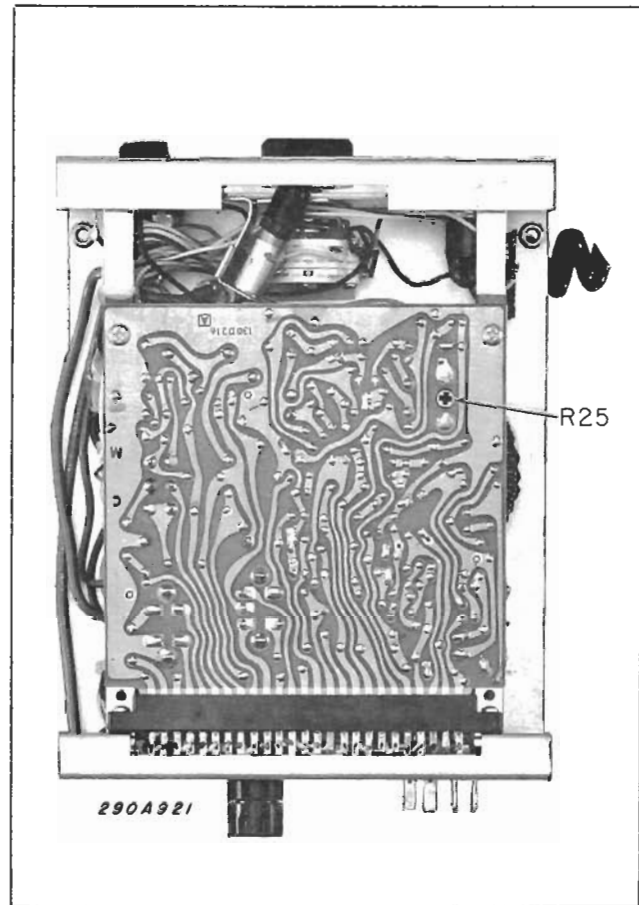

Figure 6-2. PA 150 Top View, Circuit Board Installed.
The PC Board is secured to the chassis by two Phillips-head screws (figure 6-2). Removing these screws allows the board to be pulled out of its edge connector.
3. Set the SELECTOR Switch to WAIL or HI-LO. Adjust R25 (see figure 6-2) for a perfect square wave on the oscilloscope.